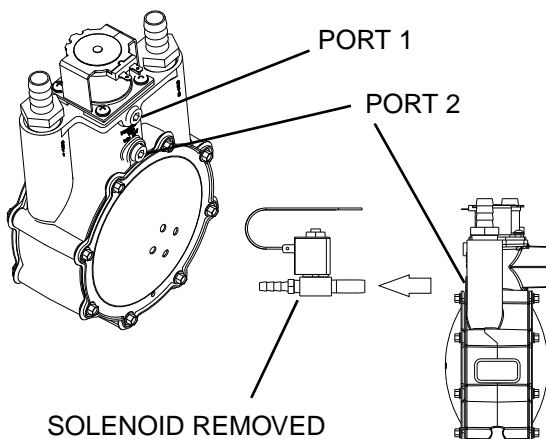

Figure 125. (10kW) Gas Pressure Test point
1. Remove the hose from fuel solenoid (FS2) and install a manometer to Port 2 on the fuel regulator. See Figure 125.